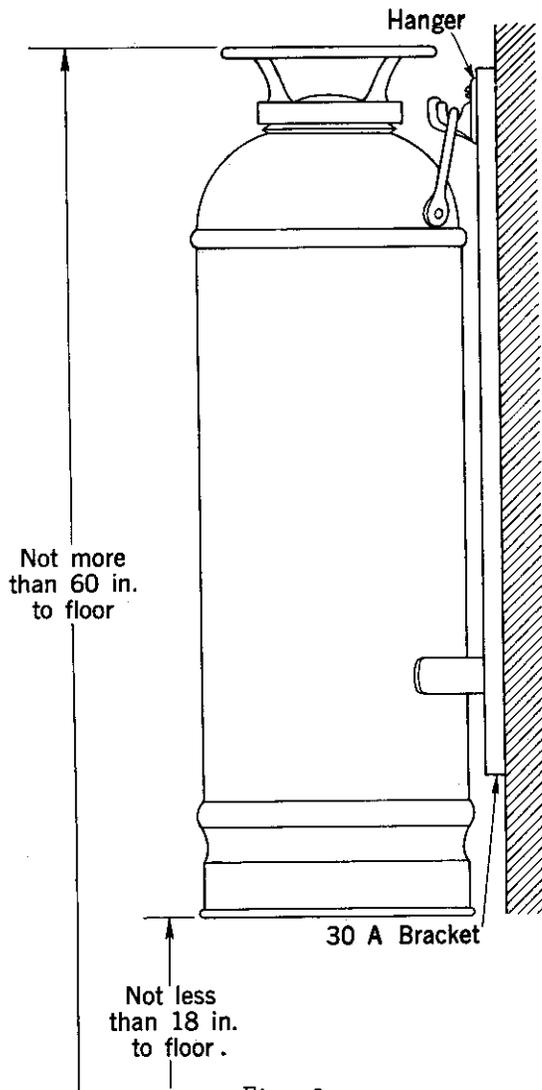

Fig. 2
4.01 Extinguishers are mounted as shown by Fig. 2.